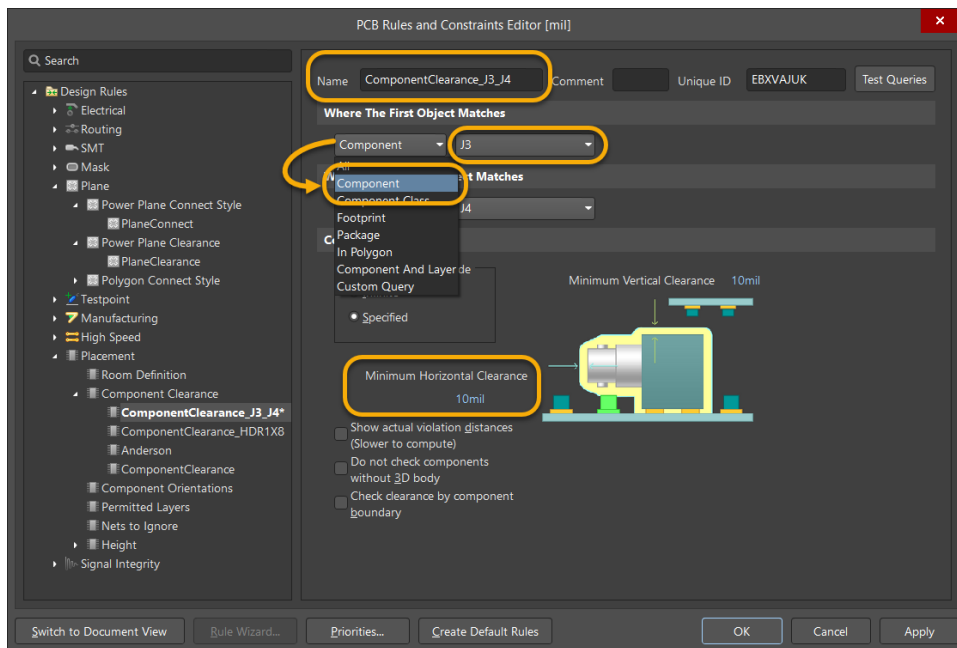

Figure 20. Where The First Object Matches
45. Use Figure 20 as reference to add the information required.